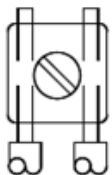
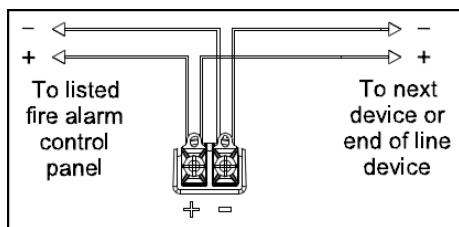

Figure 2: Wire Connection
Figure 3: LED Strobe Wiring
- Break all in-out wire runs on supervised circuits to ensure integrity of circuit supervision as shown in Figure 2. The polarity shown in Figure 3, the wiring diagram, is for the operation of the appliances. The polarity is reversed by the FACP during supervision.